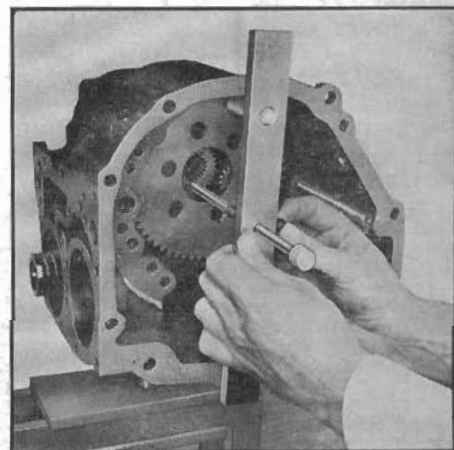

Fig. 63 Measuring sun gear depth. 1950-59
8. To determine thickness of low sun gear-to-reverse sun gear thrust washer, proceed as follows: (A) Install bronze thrust washer and clutch on oil delivery sleeve. (B) To measure distance from case flange to reverse sun gear, loosen set screw of tool J-4260, Fig. 63, and place bar of tool against case flange with stem of